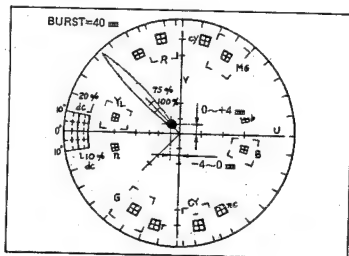

Fig. II-58
SPEC.	Set bright dot to position as shown in Fig. II-58.
SPEC.	Set bright dot to position as shown in the Fig. II-58.
- (1) Shoot white chart with halogen lamp lighted.
- (2) Set each bright dots as in Fig. II-58, respectively.